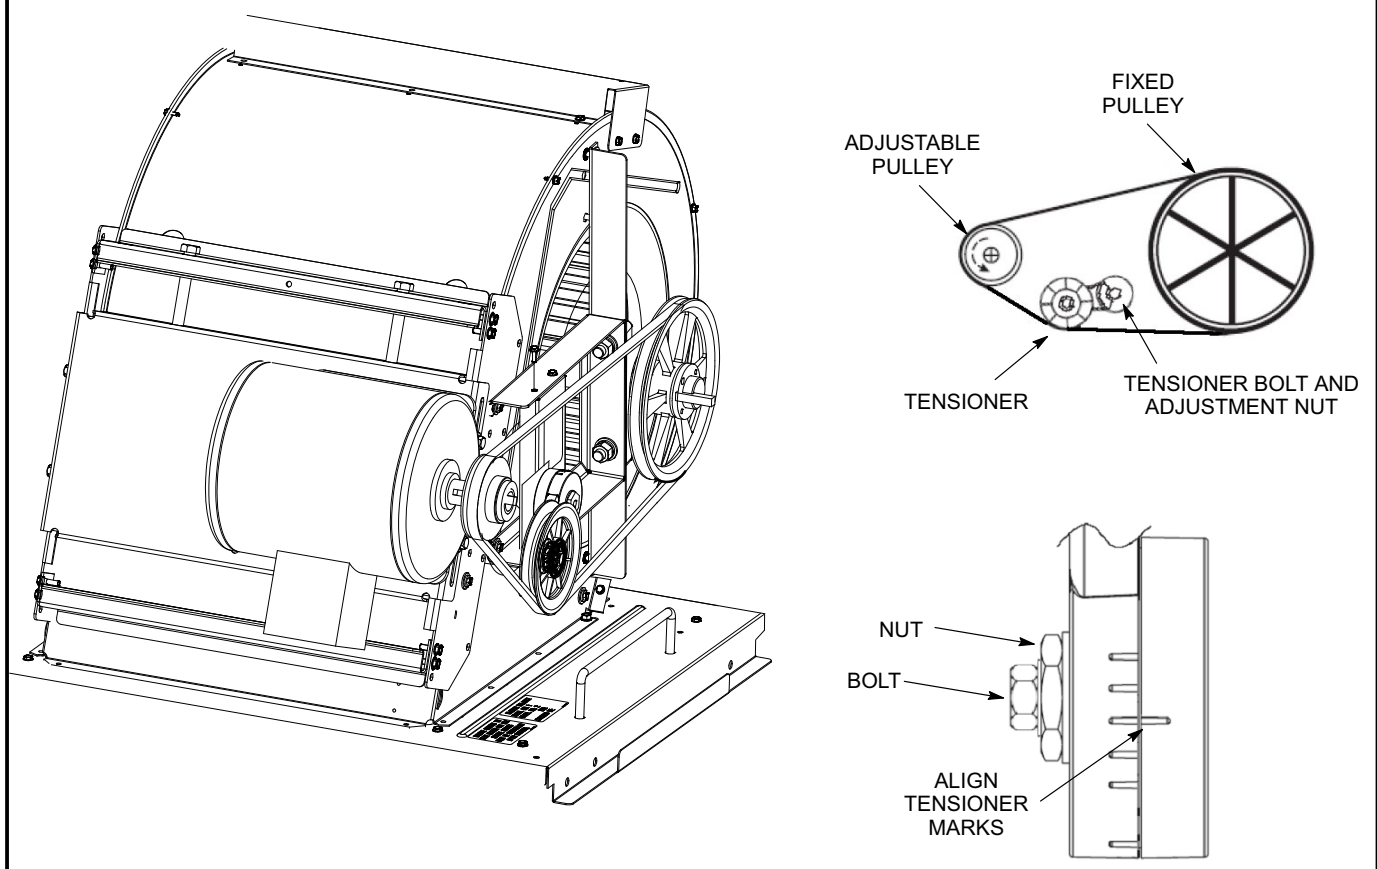

FIGURE 12
1. Loosen the bolt in the center of the tensioner. See figure 12.
3. Using a 15/16" wrench, turn the tensioner nut until marks align as shown in figure 12.